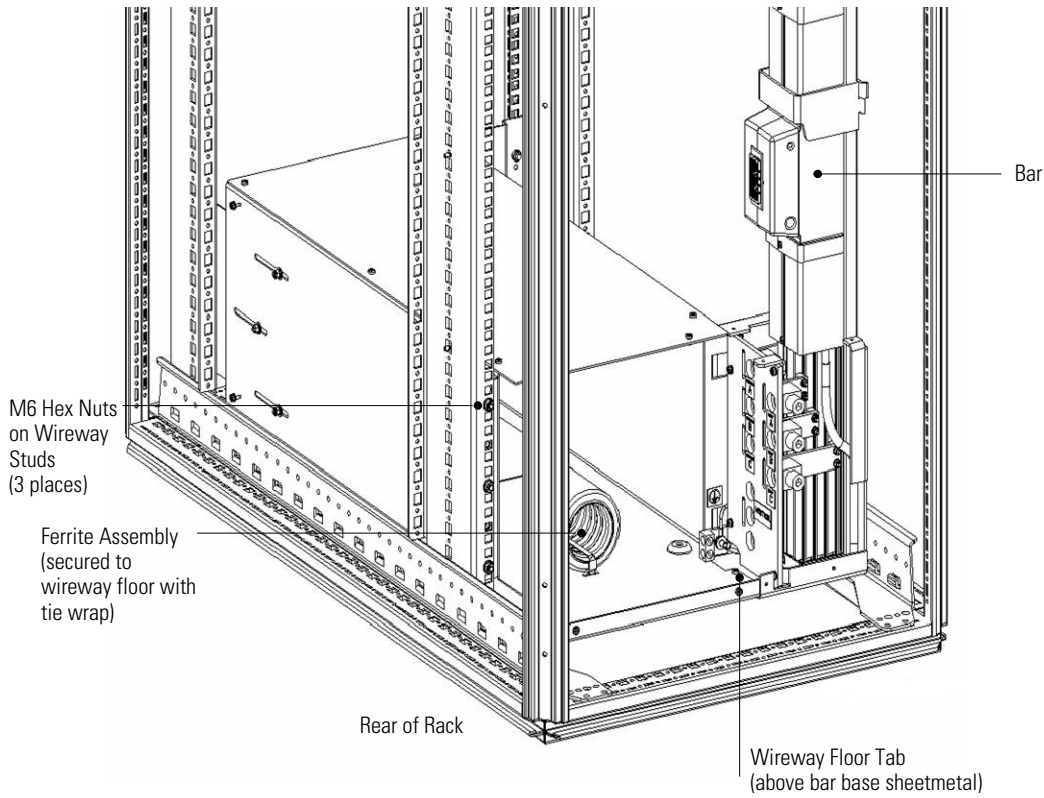

Figure 4. Ferrite and Bar Placement
4. Install an M6 hex nut onto each of the three wireway studs to secure the wireway to the rear of the rack. Install the first stud in the fourth hole location from the bottom. Do not tighten the nuts. Figure 4 shows the nuts installed.
9. Place the ferrite assembly on the floor of the wireway and secure with the supplied tie wrap. Loop the tie wrap through both attachment sites on the wireway floor and through the ferrite assembly. See Figure 4.
11. Place the bar in the rack as shown in Figure 4.
NOTE The bar can rest on the floor of the rack until secured in place. After complete installation, the bar will be secured to the rack and wireway as shown in Figure 4.
NOTE Verify that the bar is secure as shown in Figure 4. The sheetmetal at the base of the bar should be below the tab on the wireway floor.